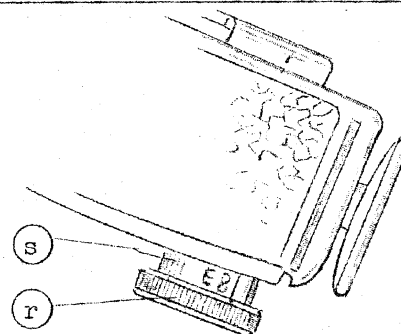

Fig. 7
2.3 Adjusting the parallax correcting ring (fig. 7)